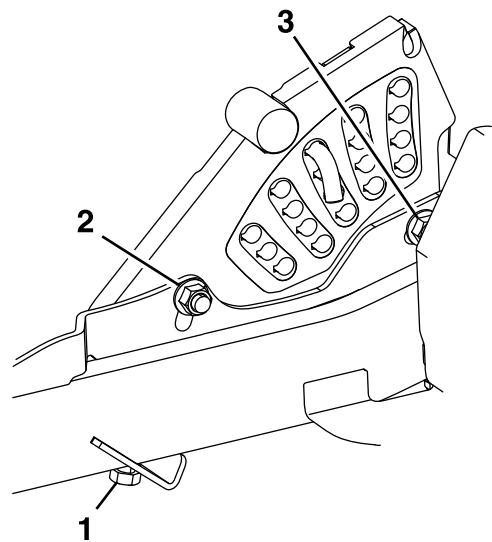

Figure 83
7. If the deck is too low, tighten the single-point adjustment bolt by rotating it clockwise (Figure 83).